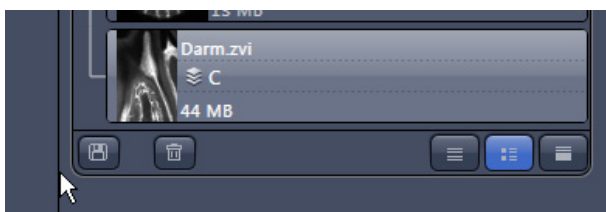

Fig. 7-13 Enlarging the image view
- In case long filenames are used the whole section can be dragged to the left and thereby enlarged (Fig. 7-13).